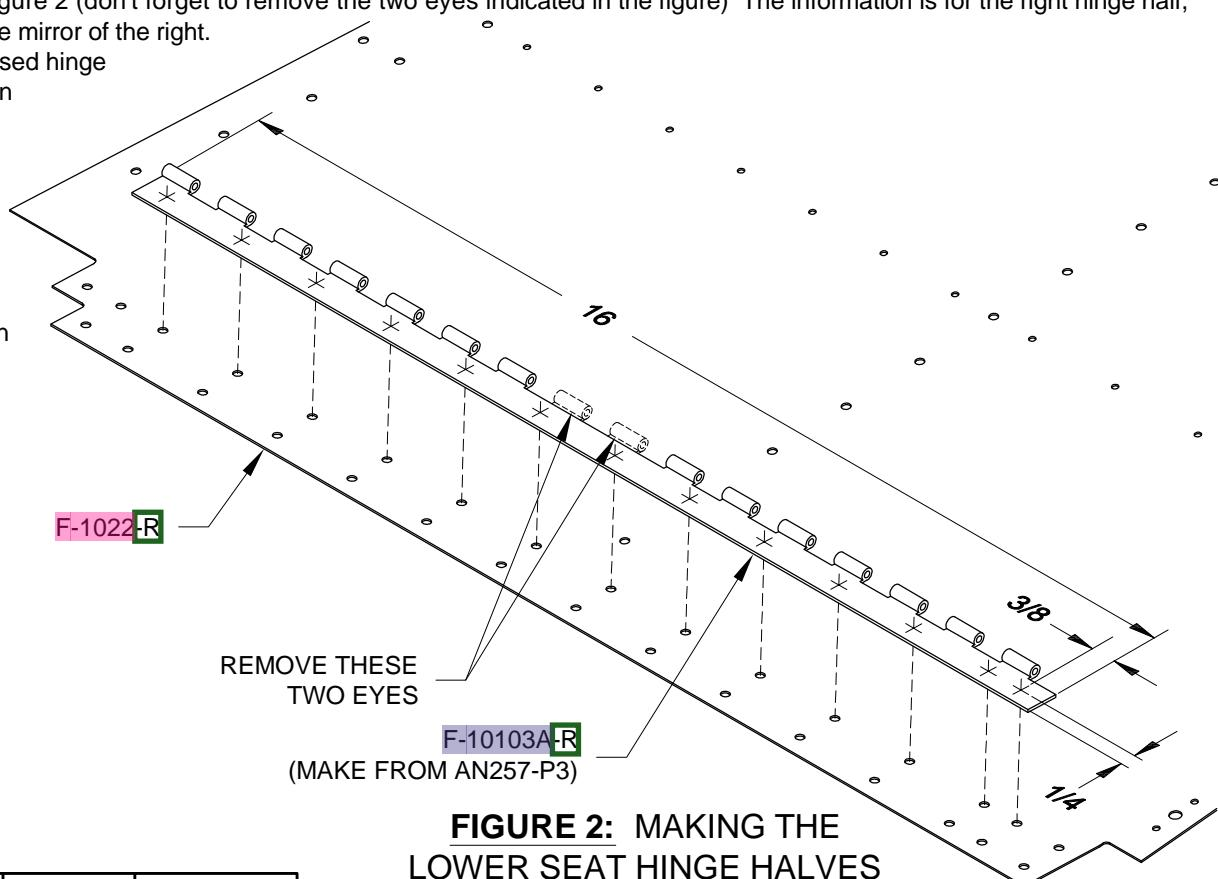

FIGURE 2: MAKING THE LOWER SEAT HINGE HALVES
Step 5: Cut two 16" lengths of AN257-P3 and remove the pins. Make the F-10103A-L and -R Lower Seat Hinge Halves using the information given in Figure 2 (don't forget to remove the two eyes indicated in the figure) The information is for the right hinge half, the left hinge half is the mirror of the right.
Step 6: Locate the F-10103A-R Right Lower Seat Hinge Half on the F-1022-R Baggage Floor as shown in Figure 2, then Match-Drill the holes of the seat floor into the hinge half using an 1/8" drill.